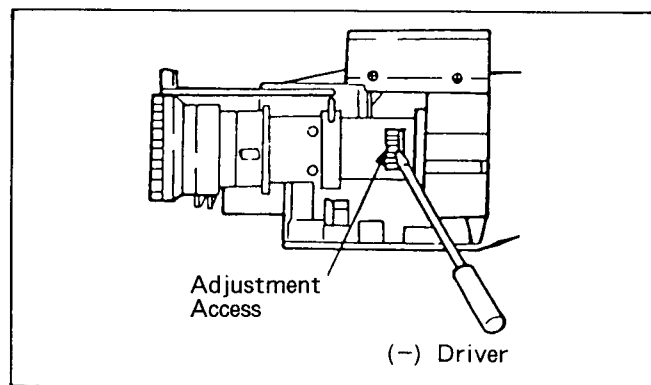

Fig. C9
- (1) Aim the Camera at the Hunting Chart 3m distance and zoom all the way in (Fully tele position.)
- (2) Focus the lens on the object.
- (3) Confirm that Focus-ring indicates 3m.
- (4) Adjust the relay lens adjustment point as shown in Fig. C9.